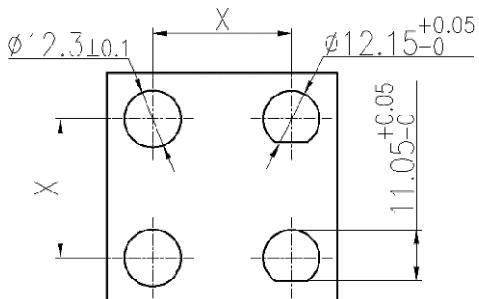

Figure 15
- ◊ 面板钻孔。钻孔的建议尺寸 (如图 15)，所有钻孔边缘的毛刺需要清除。我们建议，无论水平或垂直结构，间距值 (X) 至少要有 25mm(如图 15)。
Drill the panel wall. Recommended bore dimension see in the sketch (Fig.15), all burrs must be removed from the edges of all bores. For both horizontal and vertical mounting a spacing (X) of at least 25mm is recommended (Fig.15).